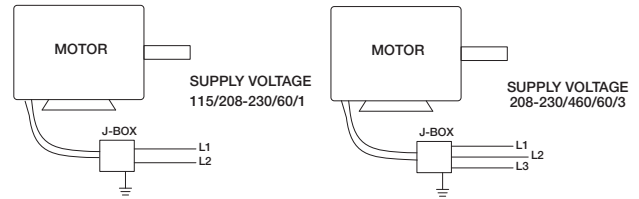

Figure 4
11. Mount and wire safety disconnect switch under motor cover. Wire control switches at ground level, refer to Figure 4.